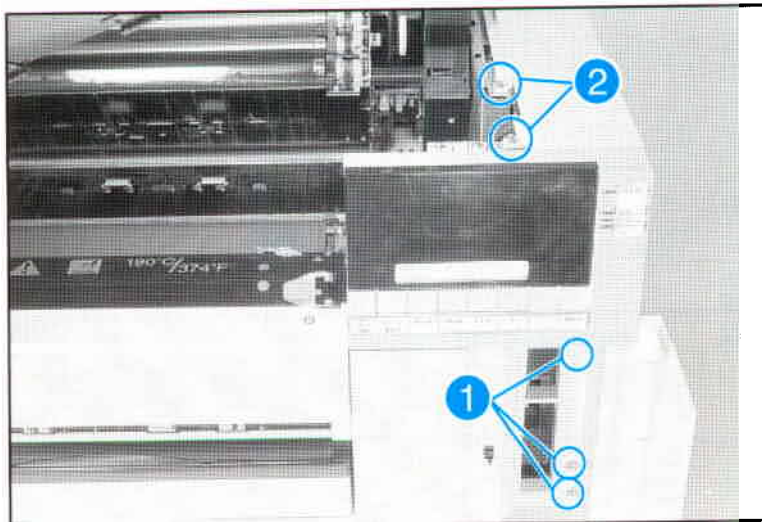

Figure 6-3 Right Side Cover Removal
1. Open the Font Cartridge Door and remove (3) screws shown in Figure 6-3, item 1.
2. Open the Top Cover and remove (2) screws shown in Figure 6-3, item 2.